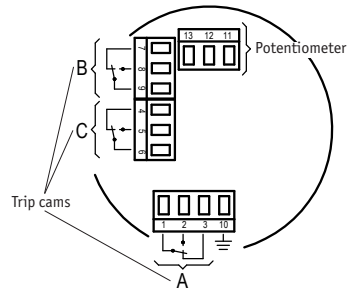

Fig. 5: Pin connection without Instrument transformer
- Connect strands to the clip terminals (fig. 5 and 6).